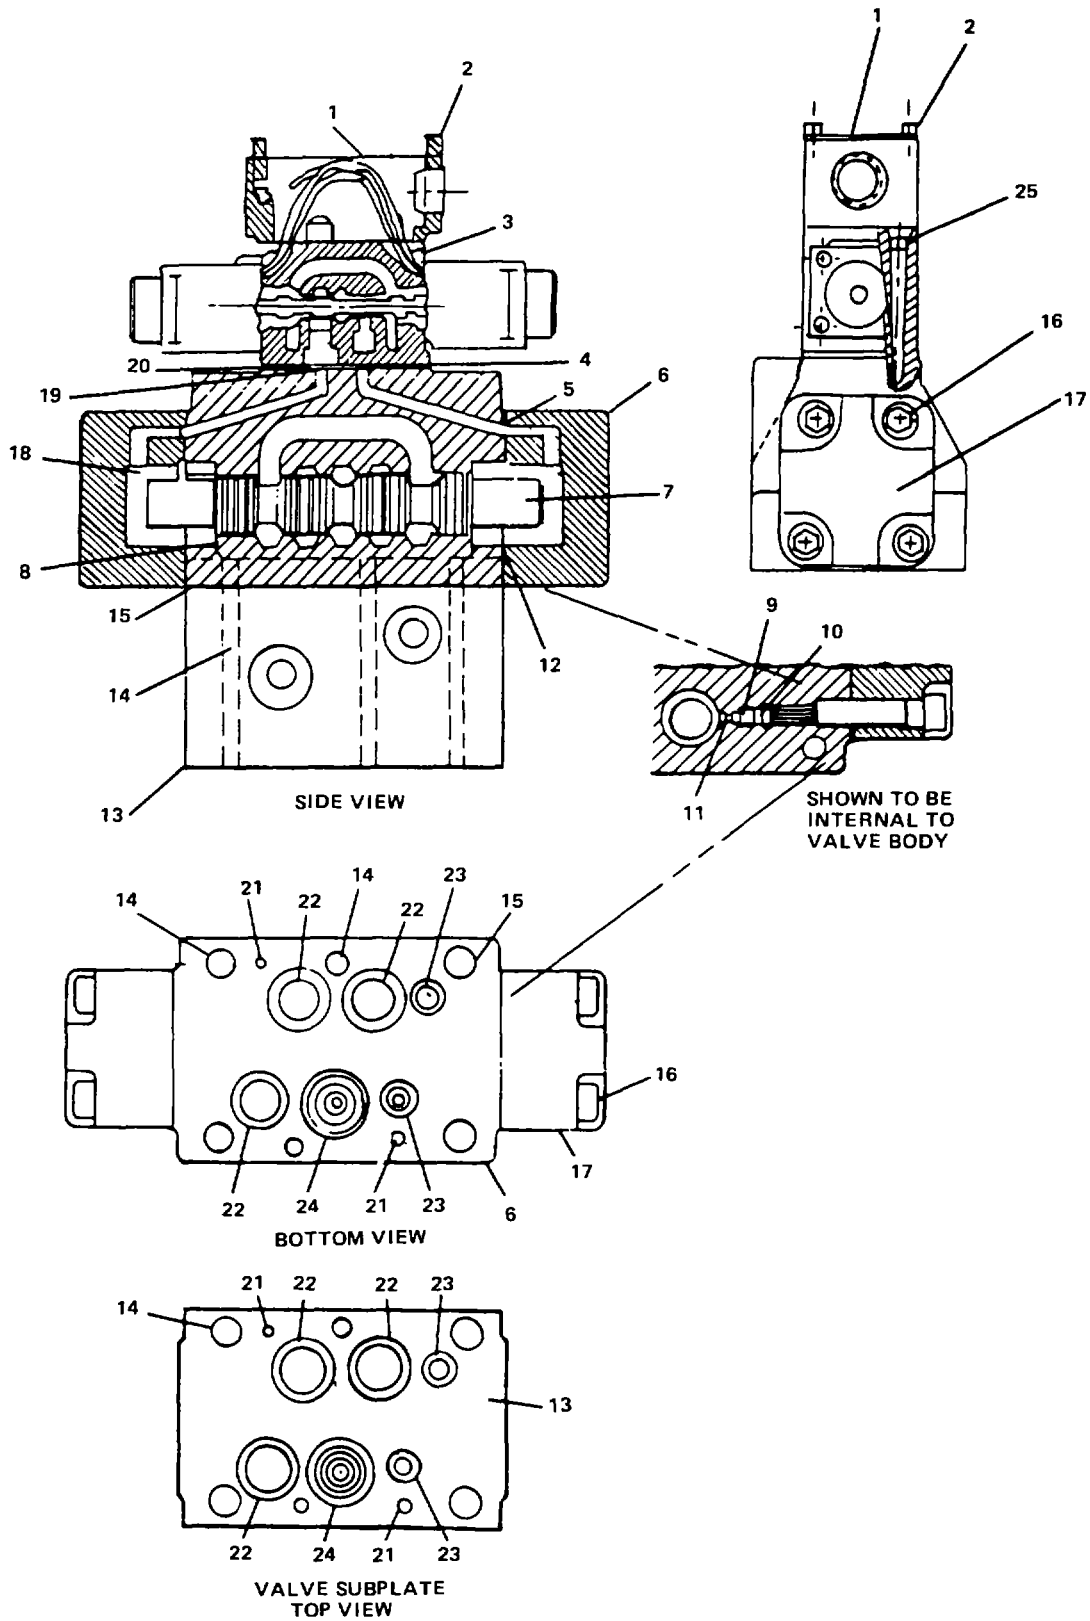

FIGURE 4-42. *Directional Control Valve*
**4-20. Repair Directional Control Valve. (FIGURE 4-42)**